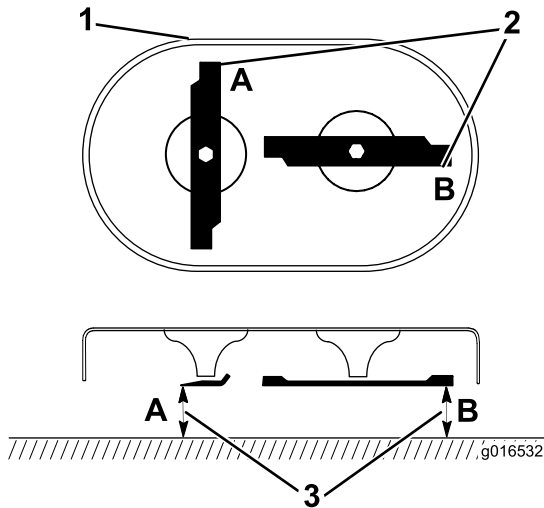

Figure 35
1. Rotate the blades until they are positioned as shown in Figure 35.
2. Measure from a level surface to the cutting edges at locations A and B, (Figure 35), and record both dimensions.